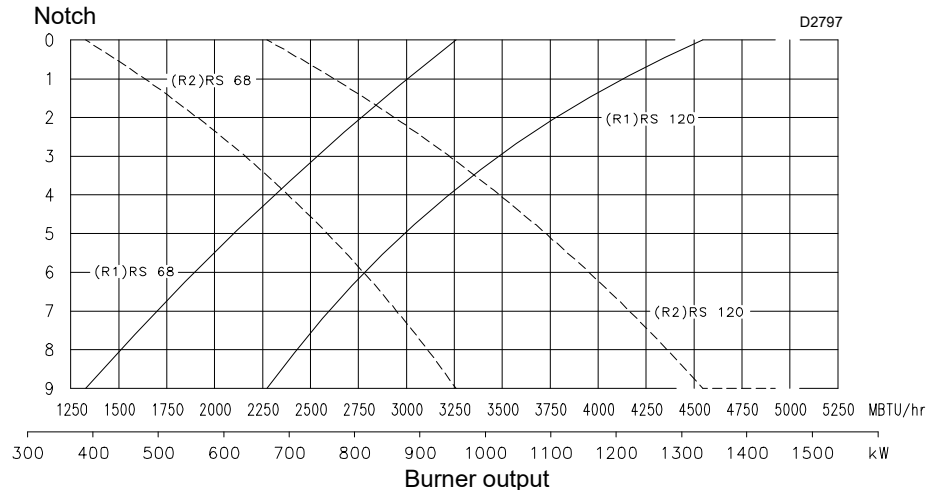
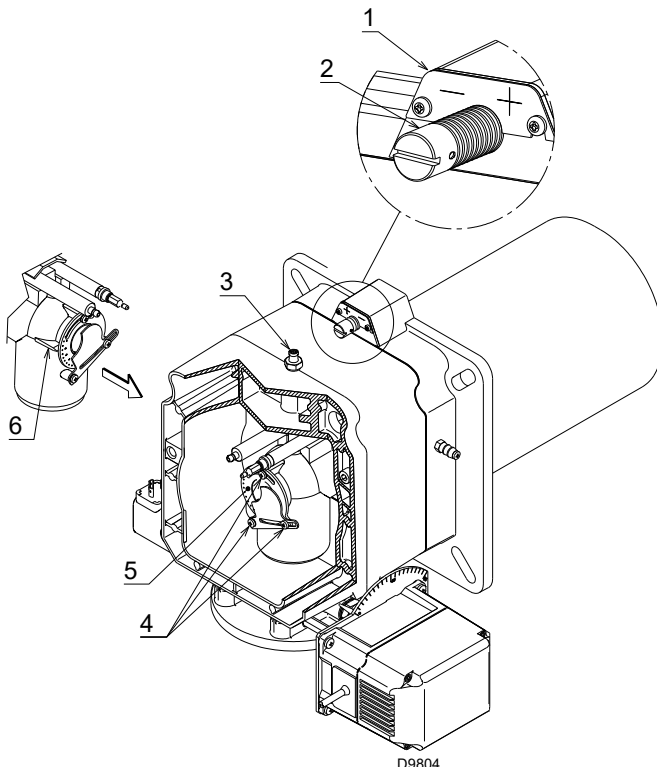
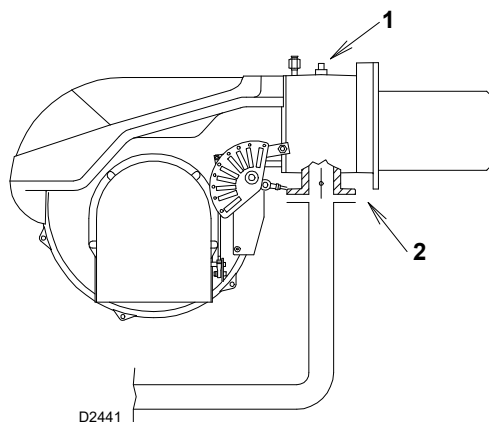
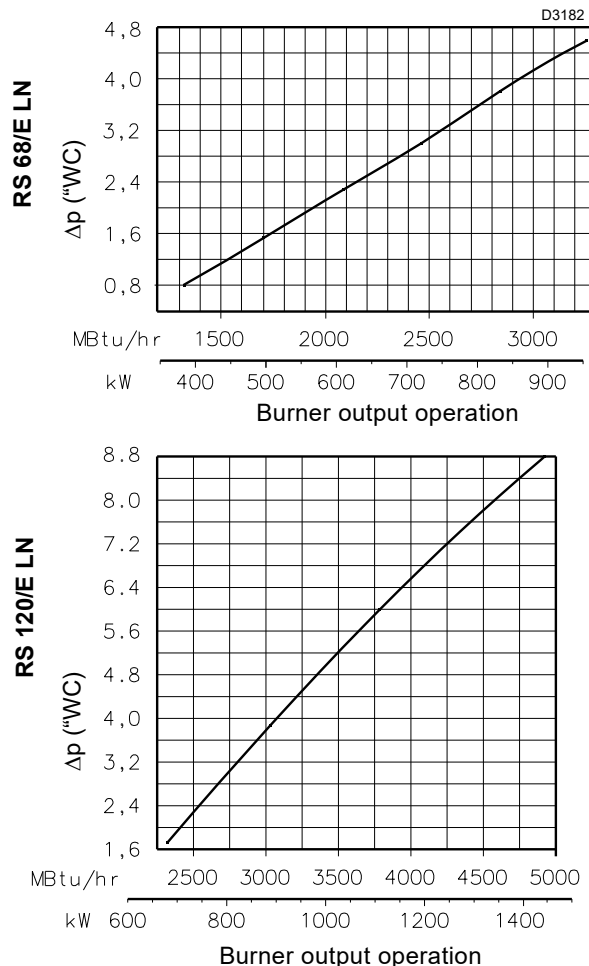

Fig. 15
Fig. 16
Fig. 21
Fig. 22
In the diagram of Fig. 15, find the notch at which to adjust both air and central gas/air.
Turn screw 4)(Fig. 16) until the notch identified is aligned with the front surface 5)(Fig. 16) of the flange.
To facilitate adjustment, loosen the screw 3)(Fig. 16), adjust and then lock.
- Loosen the 3 screws 4)(Fig. 16) and turn ring 5) until the notch identified is aligned with index 6).
If we consult diagram (Fig. 15) we find that for this output the adjustments are:
Diagram (Fig. 15) indicates an optimal regulation for a type of boiler seen in Fig. 3, page 10.
Continuing with the previous example, (Fig. 22, page 22) indicates that for burner with output of 3750 MBtu/hr a pressure of approximately 2.8" is necessary at test point 3)(Fig. 16). If this pressure cannot be reached, open the ring 5)(Fig. 16) to notch 4 or 5.
The diagram (Fig. 22) show minimum load losses at combustion head depending on the maximum burner output operation with natural gas (G 20).
Gas pressure is measured at the test point 1)(Fig. 21), with:
- Ring nut 2) (Fig. 16) adjusted as in the diagram of Fig. 15
- subtract the combustion chamber pressure from the gas pressure measured at test point 1)(Fig. 21);
- find, in the diagram (Fig. 22) the pressure value closest to the result you want;
- Gas ring 2)(Fig. 15, page 19) adjust as indicated in diagram Fig. 15, page 19
- Gas pressure at test point 1)(Fig. 21) = 5.11 "WC
To know the required gas pressure at test point 1)(Fig. 21), set the maximum output required from the burner operation, then:
- read, on the diagram (Fig. 22), the pressure test point 1)(Fig. 21);
- Ring nut 2)(Fig. 16) adjusted as in the diagram of Fig. 15
pressure required at pressure test point 1)(Fig. 21).
Δp "wc gas butterfly 2)(Fig. 21)